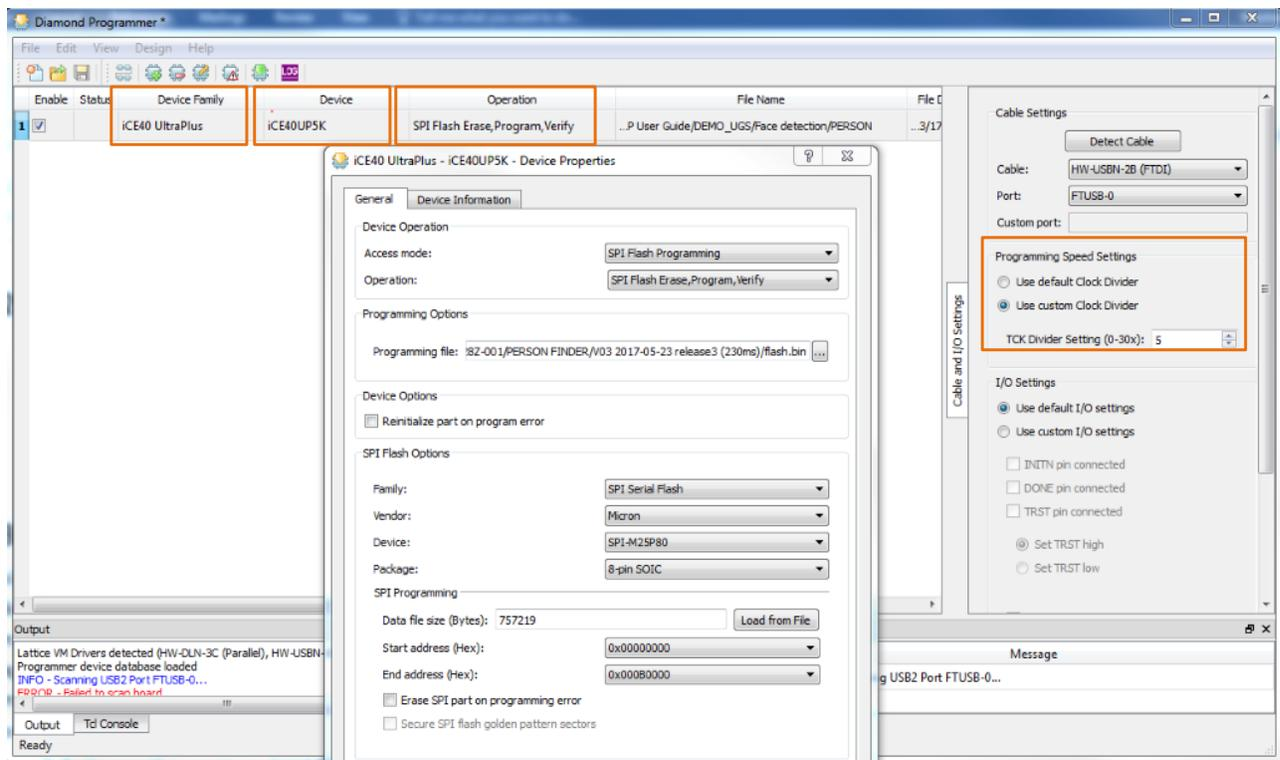

Figure 3.2. Programming Settings in Diamond Standalone Programmer
| Figure 3.2. Programming Settings in Diamond Standalone Programmer | 5 |
7. Open the Device Properties dialog. Apply the settings as shown in Figure 3.2.